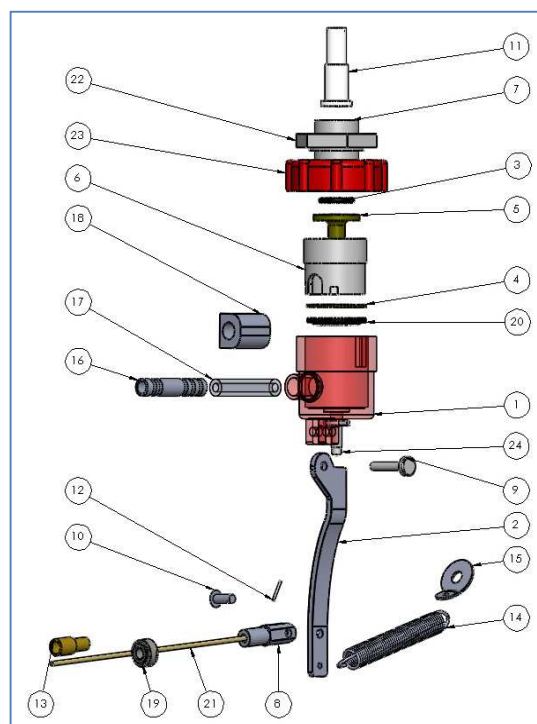
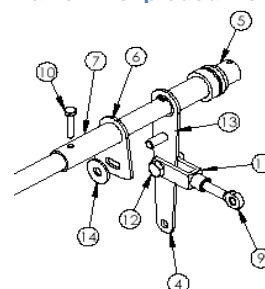
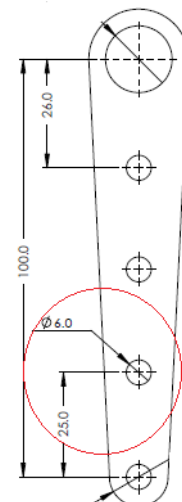

Figure 2: tail valve V2 exploded view
Figure 3: Torsion tube assembly in fuselage
Figure 6: Arm fitted with extra hole.
A filter (Fig 2, #11) has been added to the tail valve to prevent debris obstructing the valve plunger. The dump rate of the Tail valve V2 must be tested and if found less than 1 litre per minute, the tail valve must be modified accordingly:
2. The compression spring must be removed and replaced with a tension spring (Fig 2, #14) on the opposite side of the cable. The cable adjuster (Fig 2, #13) and clevis (Fig 2, #8) must be removed and replaced to accommodate the tension spring.
2. Undo lever by removing the hinge pin (See Fig 2, #9)
4. Undo the locking nut (See Fig 2, #22)
3. Cut the cable at the clevis (Fig 3, #9)
6. Place the adjuster (Fig 2, #13) as illustrated in figure 6.
8. The arm (Fig 3, #4) may have to be fitted with an extra hole, as illustrated in fig 6. in order for the cable to fit. Removal and reinstallation as well as adjustment needs to commence as explained in the maintenance manual issue 2, par 6.6.4. Adjustment of the water ballast system.
9. Install the spring retaining washer (Fig2, #15) on the bottom rudder hinge bolt, at the rear end of the wheel box.
10. Install the lever to the valve body with the hinge pin (Fig2, #9)
11. Attached the cable to the clevis (Fig 3, #9) with the lever and clevis, (Assuring the valve is in the closed position) in the positions as illustrated in figure 6.
12. The tension of the cable can be adjusted with the clevis (Fig3, #9).